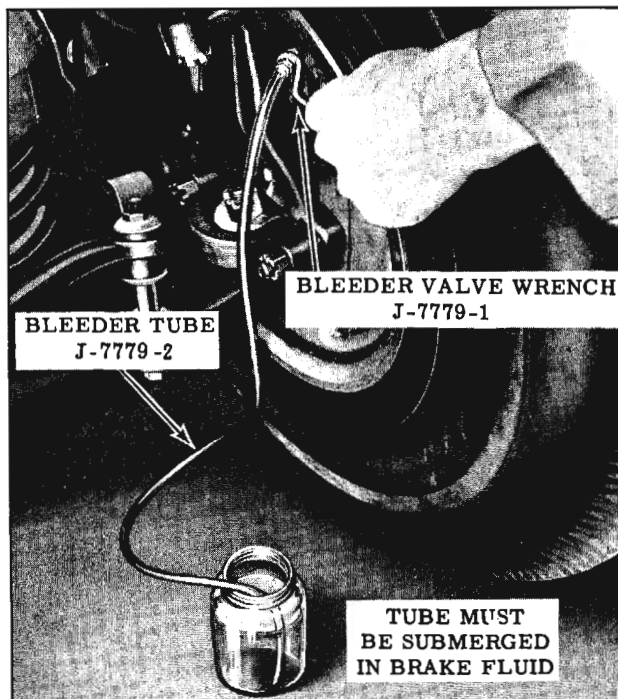

Fig. 7-7 Bleeding Brakes
3. Attach Bleeder Tube J-7779-2 to bleeder valve. (Fig. 7-7) THE TUBE MUST HANG SUBMERGED IN A CLEAN CONTAINER PARTIALLY FILLED WITH BRAKE FLUID SUPER NO. 11 DURING THE BLEEDING OPERATION.